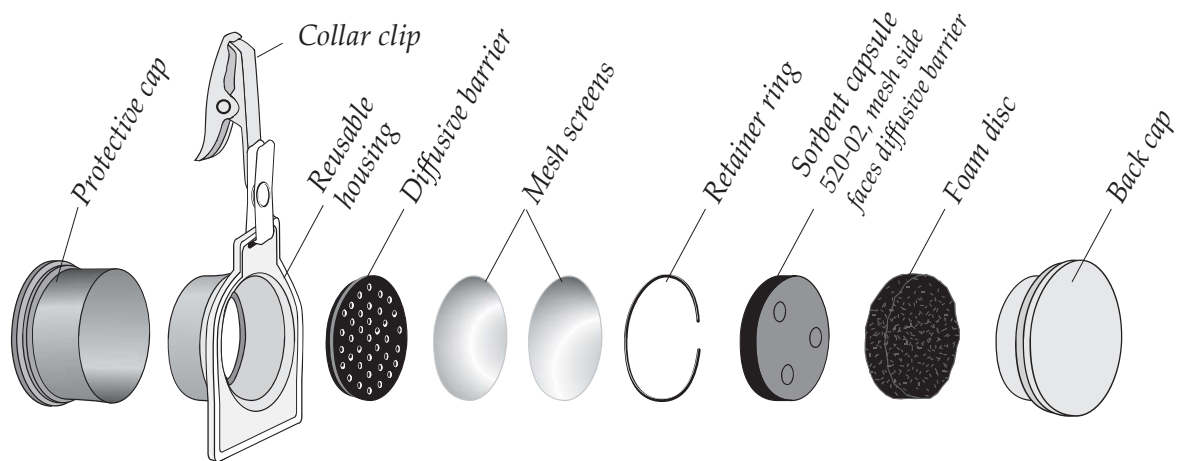

Figure 1. Complete Assembly of Passive Sampler for Elemental Mercury
5. Reassemble sampler housing for storage, without the sorbent capsule or foam disc (*see Figure 1*).